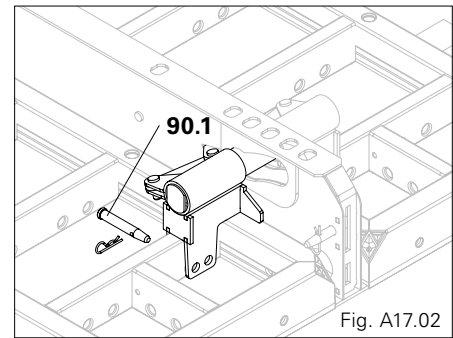

Fig. A17.02
2. Secure with bolt and cotter pin (90.1). (Fig. A17.02)